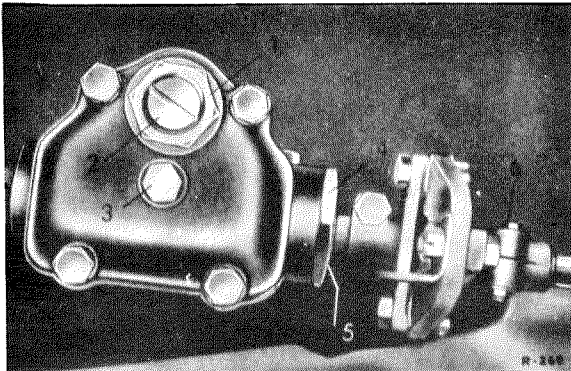

Fig. 33 — 1/1
2. Unscrew and remove the upper clamping screw (6) of the steering coupling (see Fig. 33 — 1/1).